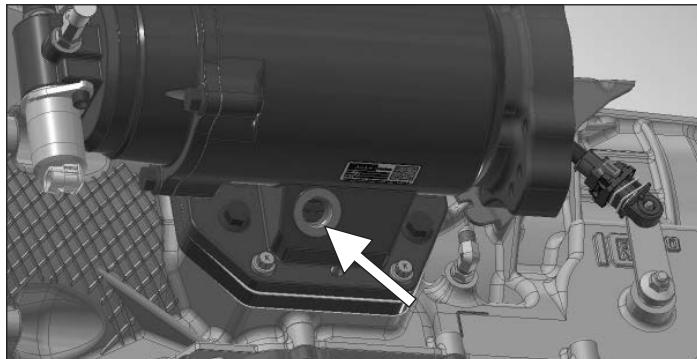

Figure 40
1. Remove EOC port plug (**Fig. 40**).